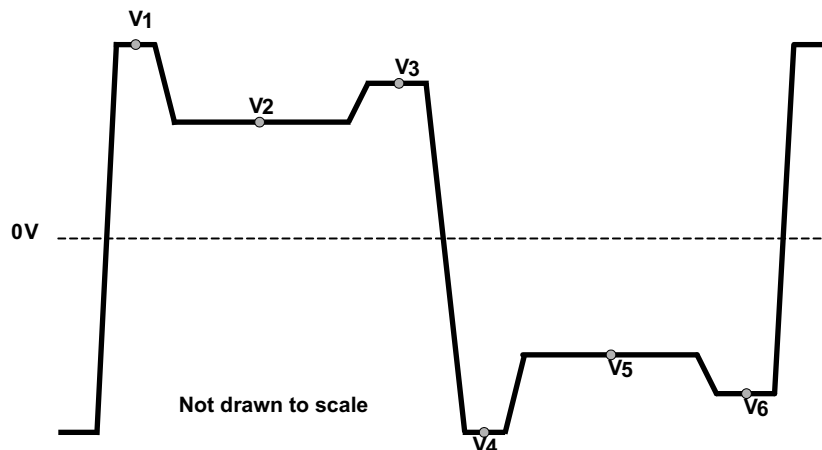
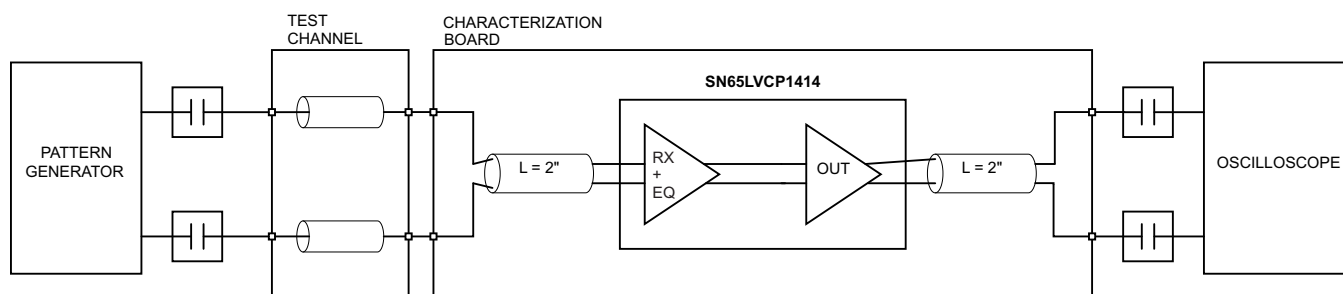
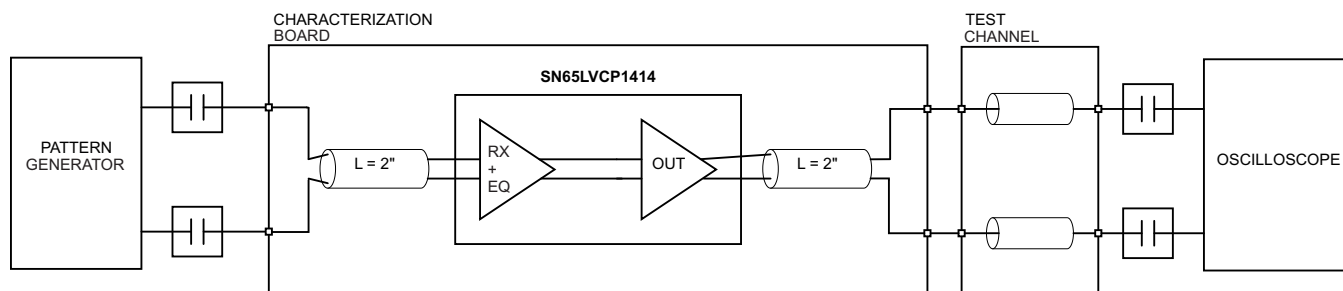

Figure 9. Vpre and Vpost (The test pattern is 111111100000000 (8-1s, 8-0s))
Figure 10. Receive Side Performance Test Circuit
Figure 11. Transmit Side Performance Test Circuit
(2) Rise and Fall measurements include board and channel effects of the test environment, refer to Figure 10 and Figure 11
(3) t_{SK(O)} is the magnitude of the time difference between the channels.
(4) t_{SK(PP)} is the magnitude of the difference in propagation delay times between any specified terminals of two devices when both devices operate with the same supply voltages, at the same temperature, and have identical packages and test circuits.
(5) All noise sources added.
Regarding timing, the SN65LVCP1414 is I^2C compatible. The typical timing is shown in Figure 9 and a complete data transfer is shown in Figure 10. Parameters for Figure 9 are defined in Table 3.